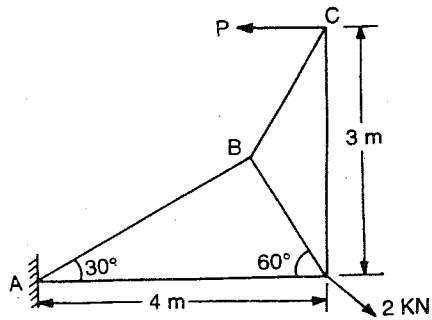

Fig. 14.35
16. A pin jointed frame is shown in figure. 14.35 . It is hinged at A and loaded at D. A horizontal chain is attached to C and pulled so that AD is horizontal. Determine the pull in the chain and also the forces in each member stating whether it is in tension or compression.